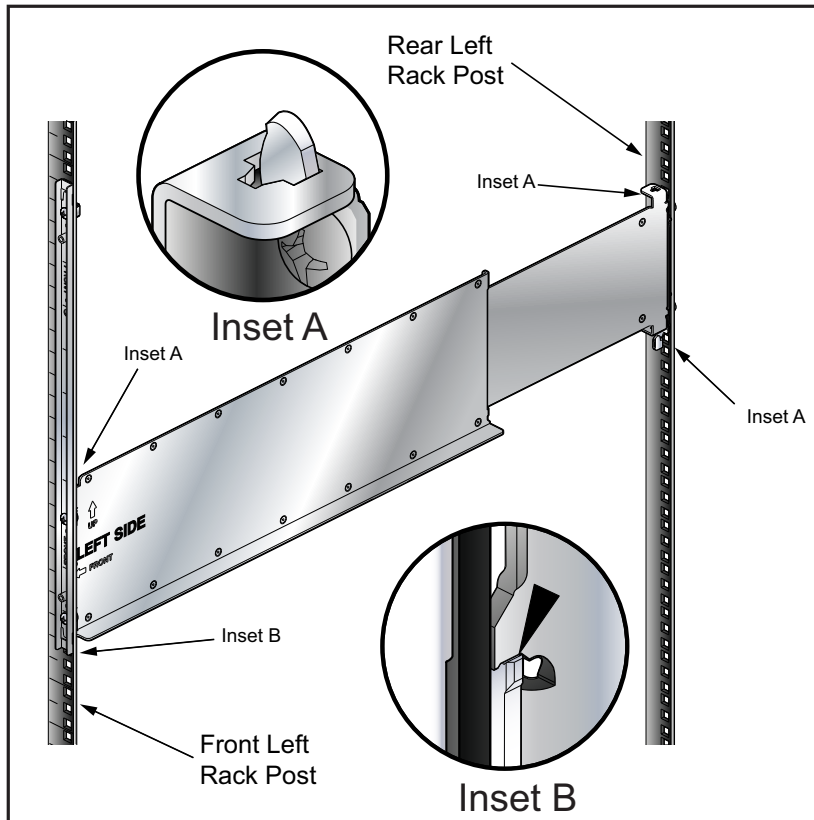

Figure 3-7: Seating the Left Shelf
Step 5 Lift the left shelf above the shelf supports installed on the left front and left rear rack posts (step 1 and step 3). Align the holes (Inset A) and hook (Inset B) with the stubs on the brackets. Lower the shelf such that the bracket stubs are inserted into the shelf holes and hook (Figure 3-7 on page 14).